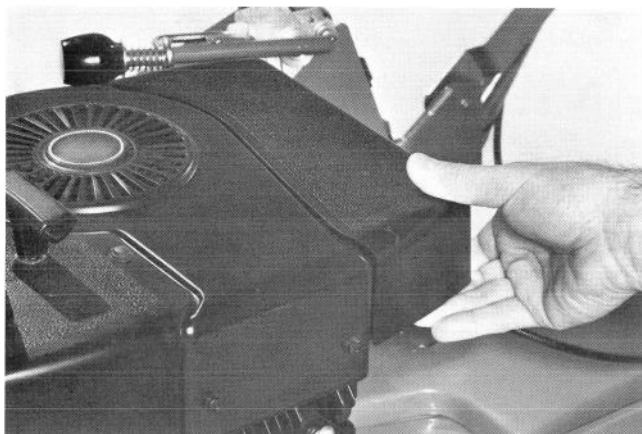

Figure 25
1. Remove cover and clean (Fig. 25).